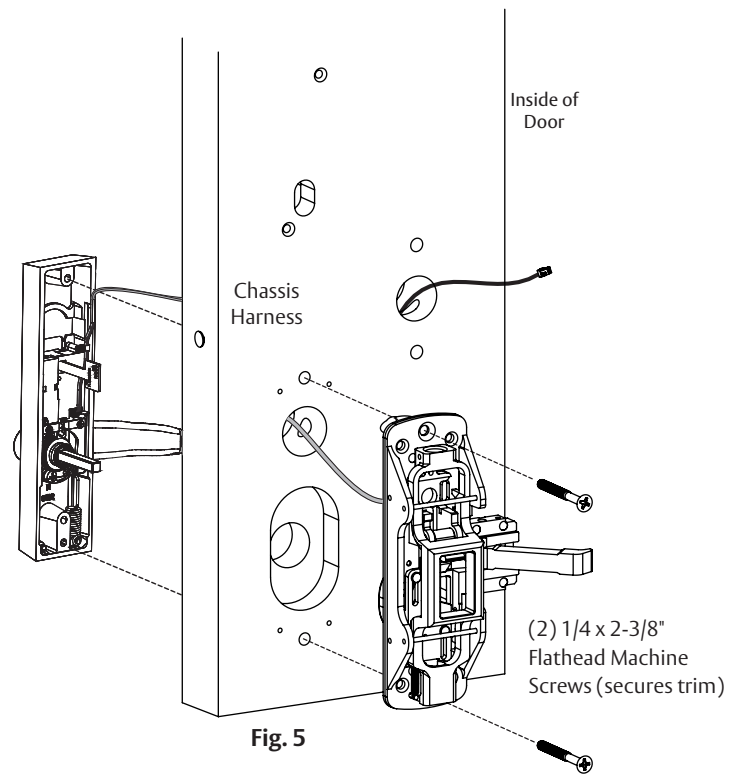

Fig. 5
NOTE: Exit chassis harness consists of a 6-pin female connector and (2) ground wire terminals. (Fig. 5, 6)
1. a. Feed 6-pin connector and larger ground lug straight through to outside of door. (Fig. 5, 6)
1. b. For exterior application, use trim gasket to seal between trim escutcheon and outside door surface (Fig. 5).